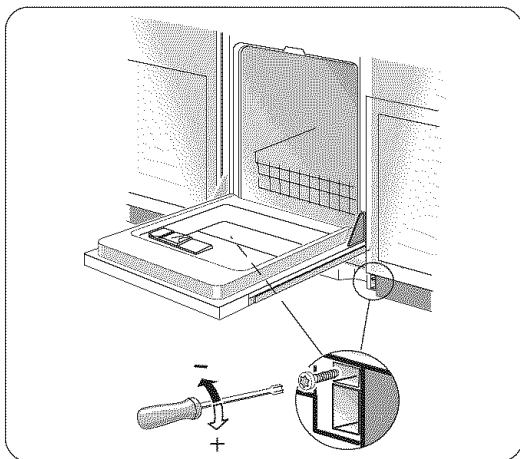

Figure 30
- 2 Insert the screws as shown in **Figure 30**. Turning the screw clockwise increases the spring tension.